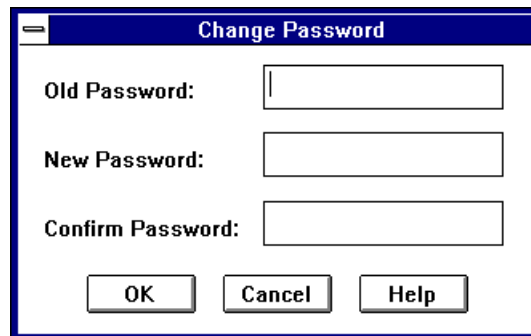

Figure 12-1. Change Password Dialog Box
- 2 Select **Server Administration** from the View menu. Then select **Change Password**. The Change Password dialog box appears, as shown in Figure 12-1.